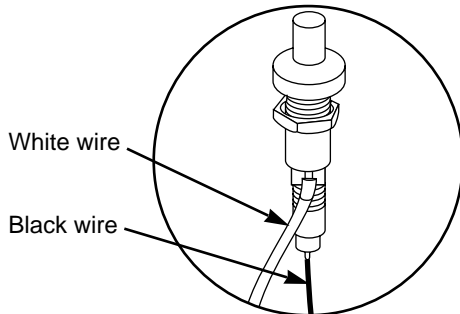

Figure 26
- Check that both the white and black ignition wires are attached properly. Figure 26.